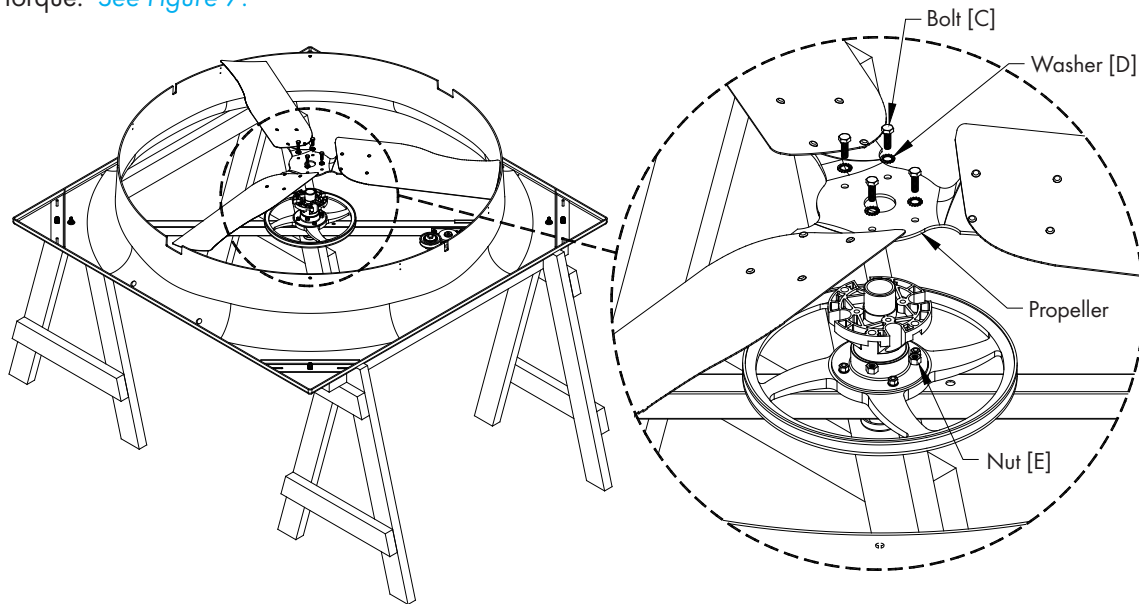

Figure 7
Attach Propeller to Hub Assembly using (4) Bolts [C], Washers [D] and Nuts [E]. Tighten bolts to 180 in-lbs. of torque. See Figure 7.